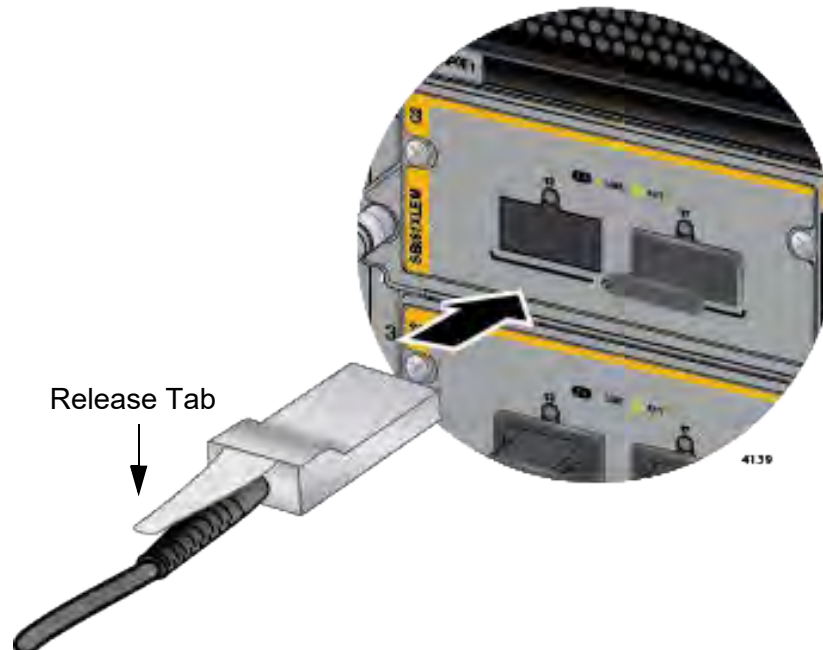

Figure 110. Sliding the AT-QSFPCU Cable into the Slot
2. Orient the connector on the AT-QSFPCU Cable with the release tab on top and slide it into the slot until it clicks into place. Refer to Figure 110 on page 184.